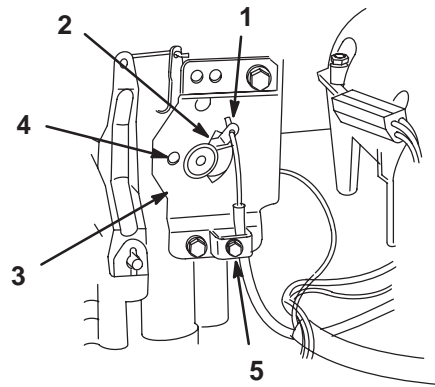

Figure 7
1. Place throttle control lever in the fast position.(Fig. 7).
2. Hook wire Z-bend into hole of speed control lever (Fig. 7).
3. Loosen cable clamp screw allowing cable installation, but do not tighten (Fig. 7).